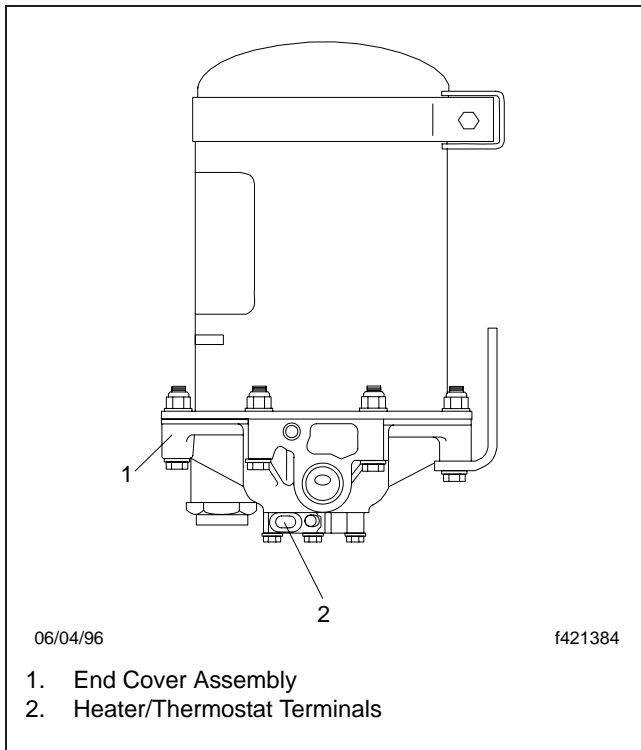

Fig. 3, Bendix AD-9 Air Dryer Heater and Thermostat Check Location
7. Use an ohmmeter to check resistance between the terminals on the end cover. See **Fig. 3**. The end cover contains the heater/thermostat. If the heater/thermostat is between 40° and 90° F (5° to 32° C), the heater/thermostat measured resistance will be infinite ohms. If the measured resistance is less than infinity, replace the heater/ thermostat.